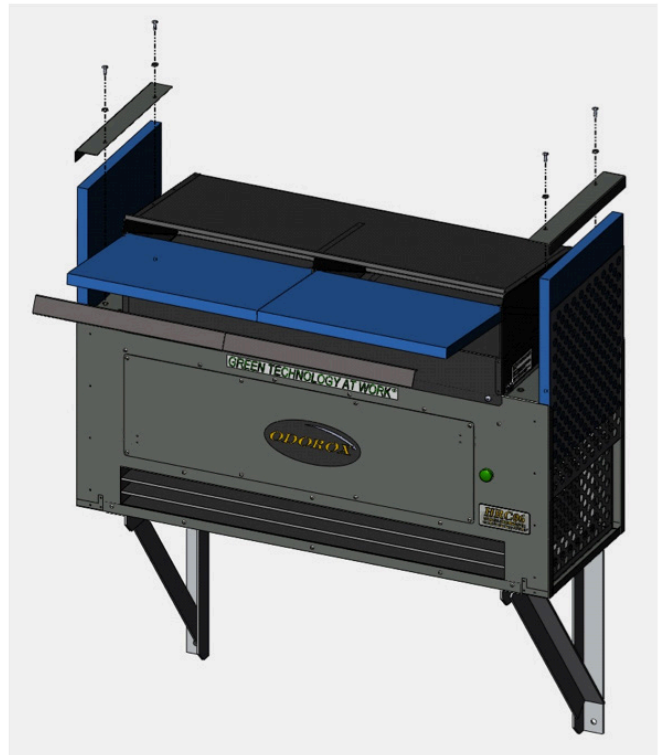

Figure 11
The Odorox® HRC06™ Unit comes with four washable filters; two in the black filter intake/optic shield and one on each side (see Figure 11). A periodic cleaning schedule will need to be put in place to ensure the HRC06™ Unit remains operating at peak efficiency. This cleaning schedule will depend on the level of airborne dirt/contaminants in the treatment space and should be frequent enough so as to avoid any substantial buildup on the filters. To clean the filters follow these steps:
- STEP 5:** Ensure clean filters are totally dry prior to re-installing them in the HRC06™ Unit (see Figure 11).